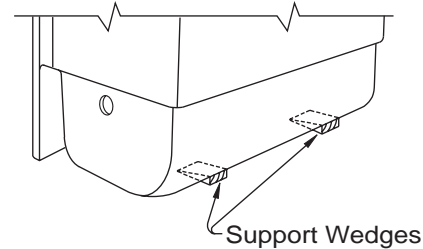

Figure 4
**7.** Place shims under the unit after it is put into place and as it is being leveled. Apply an adhesive to the bottom of each shim to permanently secure into place. To ensure proper fit, support and a solid base, a minimum of two shims must be used on each unit. **See Figure 4** for additional details.